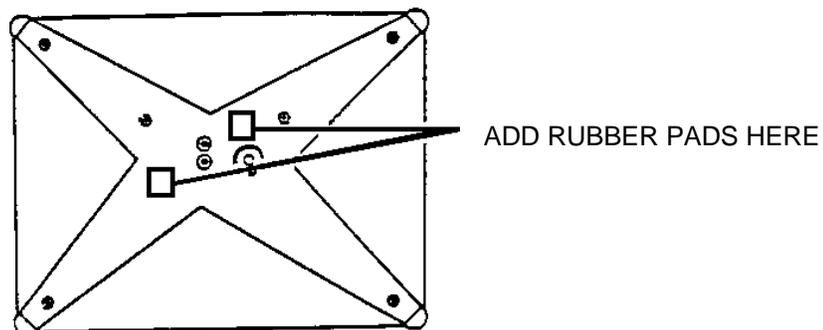

FIGURE 4
5.5.2.6 Install the rubber pads part number 1258600A on the spider assembly , Figure 4.